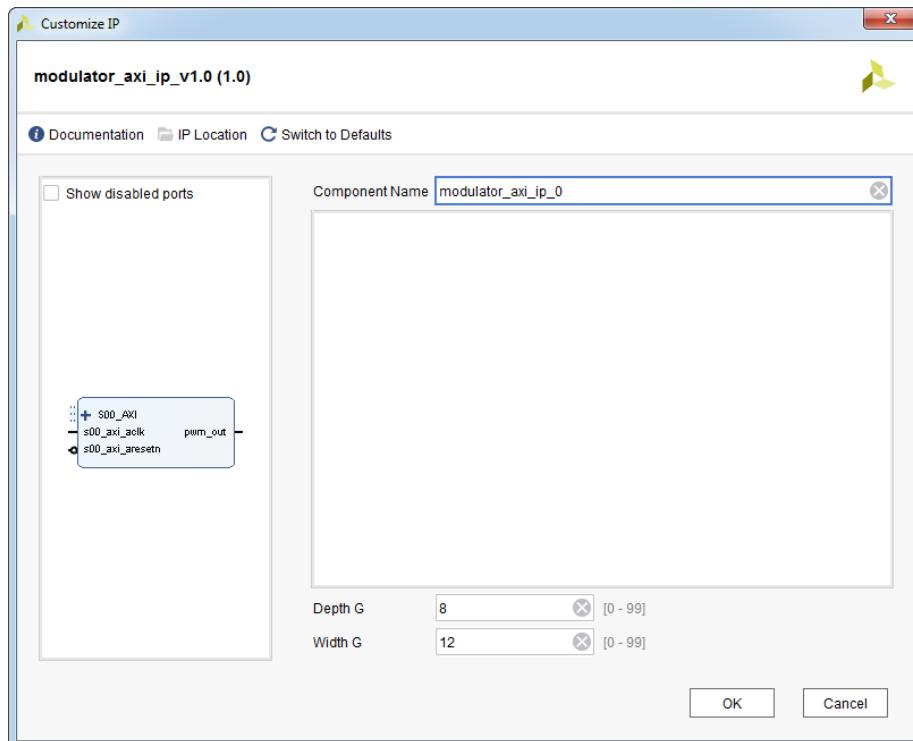

Figure 12.89: Customize IP - modulator_axi_ip_v1.0
32. In the **modulator_axi_ip_v1.0 (1.0)** customization window, check is **Depth G** set to 8 and **Width G** to 12 and if it is, click **OK**, see Figure 12.89.